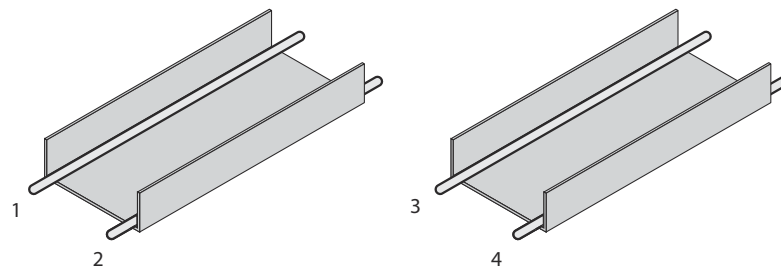
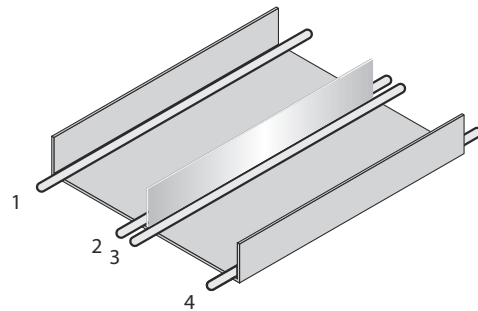

Figure 20: Ideal laying - Place cables in different cable channels
Figure 21: Alternative laying - Separate cables with metallic separators
- ▶ Route the cables in groups 1, 2 and 3, 4 in different cable channels or use metallic separators (see figure 20 and figure 21). This applies particularly if cables of devices with a high level of radiated emission, such as frequency converters, are laid parallel to device cables.